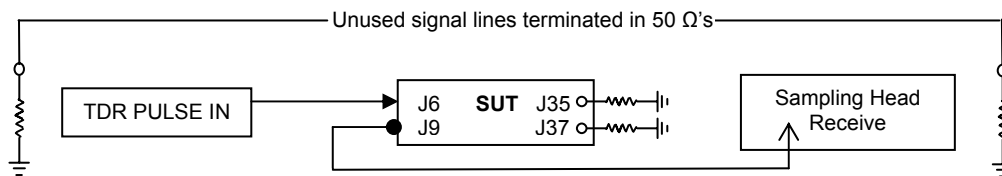

Figure 5 - Near End Crosstalk
SUT Preparation (figure 5) – Four single-ended near end crosstalk configurations were monitored using connector/pcb fixtures SOLC, J1 / TOLC, J2 and SOLC, J8 /TOLC, J3. Five differential near-end crosstalk configurations were monitored using all four fixture convections. They were SOLC, J1/TOLC, J2, SOLC, J8 /TOLC, J3, SOLC, J15 /TOLC, J4 and SOLC, J22 / TOLC, J5. Terminate far end aggressor and victim lines using 50 Ω high frequency (HF) terminations. Also terminate all the unused transmission paths within the connector/pcb fixture bank. Reference connector/footprint pinout map for crosstalk configuration detail.
An active pulsed waveform is transmitted through a selected SUT signal line. The adjacent quiet signal lines are monitored for the coupled energy at the near-end and far-end. Active and quiet lines not being monitored are terminated in the test systems characteristic impedance. Signal lines adjacent to the quiet lines remain terminated on both ends throughout the test sequence. Failing to terminate the active near or far end, quiet lines, or in some cases, signal lines adjacent to the quiet line may have an effect on amplitude and shape of the coupled energy (Figures 5 & 6).